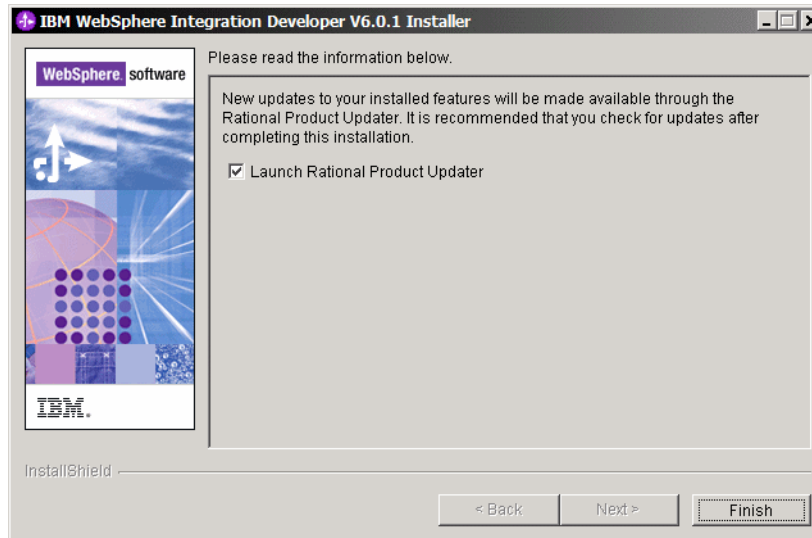

Figure A-6 Launch Rational Product Updater
- ▶ Select *Launch Rational Product Updater* to verify if product updates are available (Figure A-6). Click *Finish*.